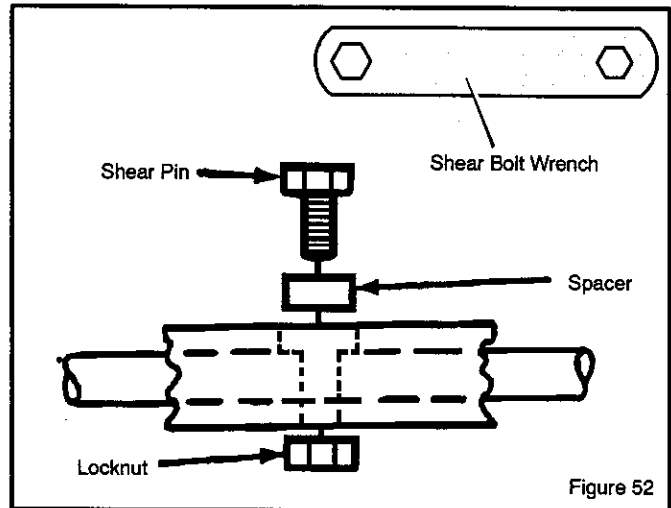

Figure 52
3. Align the hole in the auger with the hole in the auger shaft. Install new shear bolt, spacer and locknut found in the toolbox located on the belt cover (See Figure 52). Tighten with the shear bolt wrench.